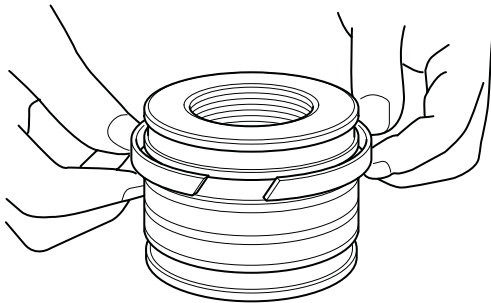

Fig 82.
- Install the two wear rings into their installation grooves → Fig 82. (□ E-197).